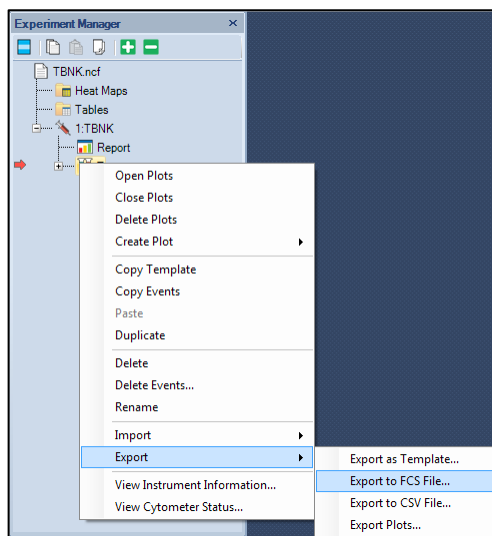

Figure 77. Manually Export Data
- To manually export a file, right-click the specimen or sample name in the **Experiment Manager** and select **Export > Export FCS File ...** or **Export > Export CSV File ...**, as shown in Figure 77. In the prompt window, specify the folder to export the data.